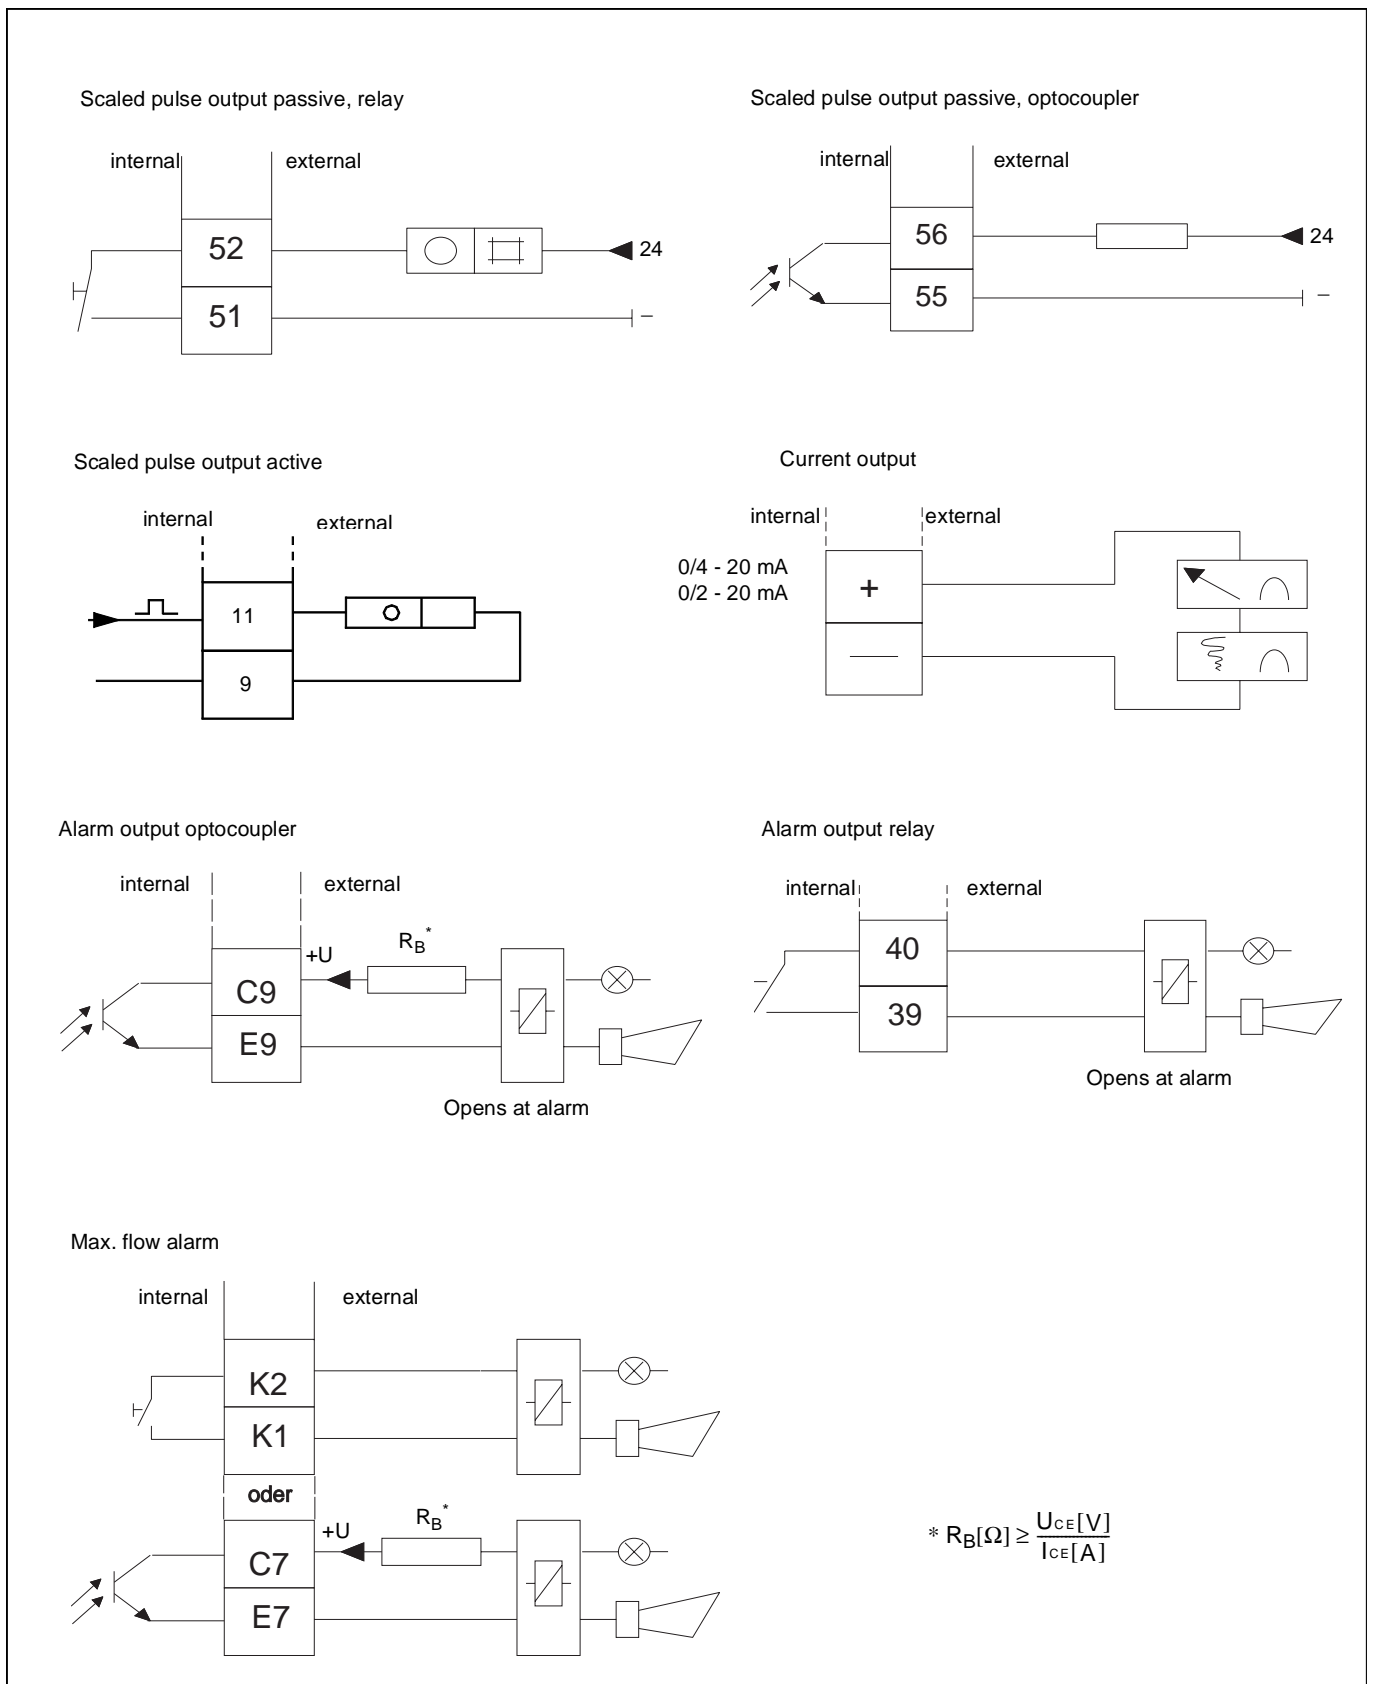

Fig.III-4 Interconnection Examples - Output Connections
- 1) The pressure converter in a 2-Wire design, 4-20 mA, can be connected to the terminals P+, PA (supply power from converter) or in the 4-Wire design, 0/4-20 mA, can be coconnected to terminals P-, 3 (external supply power). The pressure signal to the converter can also be connected to the analog input (0/4-20 mA) at terminals 15, 3. (Fig. III-4)